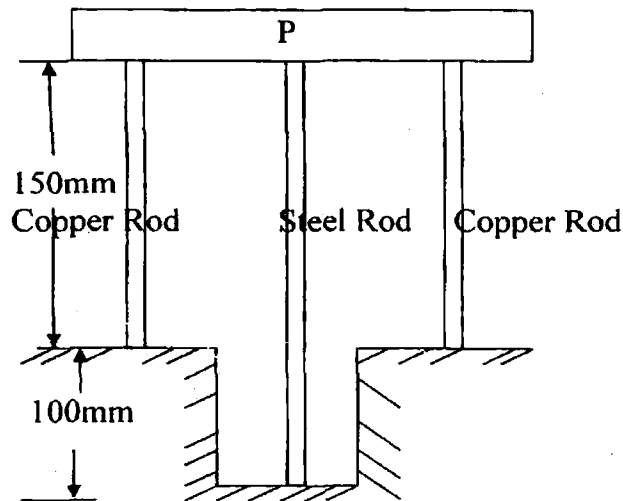

Fig. 11(a)
11. (a) The load P is applied on the bars as shown in Fig. 11(a). Find the safe load P if the stresses in brass and steel are not to exceed 60 N/mm^2 and 120 N/mm^2 respectively. E for steel = 200 kN/mm^2 , E for brass = 100 kN/mm^2 . The copper rods are $40 \text{ mm} \times 40 \text{ mm}$ in section and the steel rod is $50 \text{ mm} \times 50 \text{ mm}$ in section. Length of steel rod is 250 mm and copper rod is 150 mm .